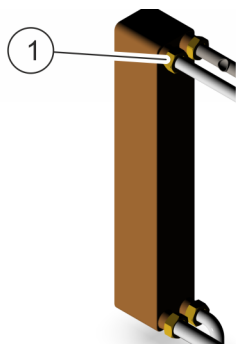

Fig. 29: Releasing bolted connections
3. ➔ To release the heat exchanger, use an adjustable spanner to release the 4 bolted connections (Fig. 29/1).
6. ➔ To bolt the new heat exchanger in place, tighten the 4 bolted connections (Fig. 29/1).